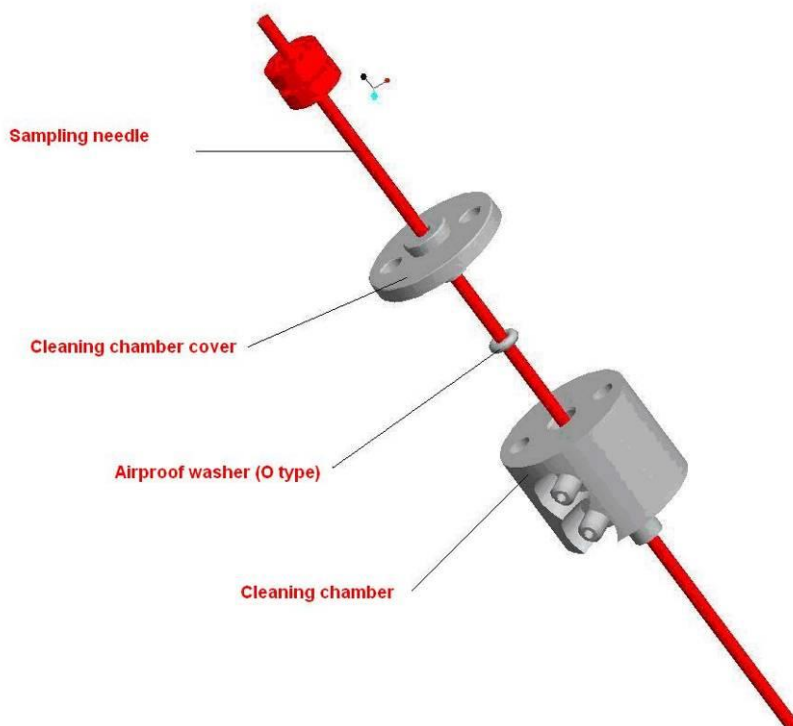

Figure 5-9 Replace the airproof washer for cleaning chamber
- 2) Take off the sampling needle and cleaning chamber assembly from the carrier, then take out the cleaning chamber cover and sampling needle from the cleaning chamber assembly, you can take off the airproof washer and replace a new one. Please remember to smear the inside and outside of the washers with airproof lubricating grease and fix the cleaning chamber assembly again, as shown in figure 5-9: